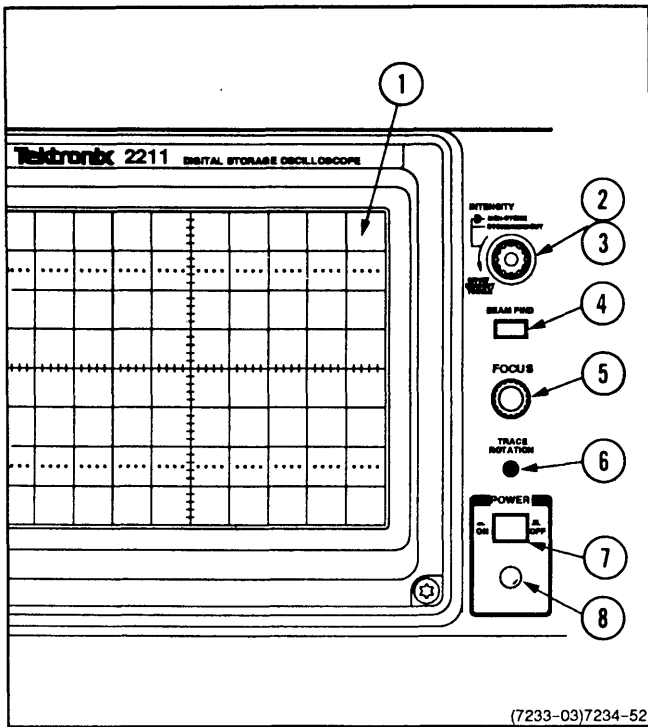

Figure 2-3. Power and Display controls and power-on indicator.
See Figure 2-3 for location of items 1 through 8.
- ① **INTERNAL GRATICULE** – Eliminates parallax viewing errors between the trace and the graticule lines. Rise time amplitude and measurement points are indicated at the left edge of the graticule.
- ② **INTENSITY Control** – Adjusts the brightness of the NON-STORE trace display.
- ③ **READOUT/STORE INTENSITY Control** – Adjusts the brightness of the STORE mode traces, CRT readout and cursor displays. This control is also used to either enable or disable the CRT readout and cursor display. The fully counterclockwise position of the control toggles the readout on and off.
- ④ **BEAM FIND Switch** – Compresses the vertical and horizontal deflection to within the graticule area. The traces are intensified to aid the user in locating traces that are overscanned or deflected outside of the crt viewing area.
- ⑤ **FOCUS Control** – Adjusts for optimum display definition. Once set, proper focusing is maintained over a wide range of display intensity.
- ⑥ **TRACE ROTATION Control** – Permits alignment of the trace with the horizontal graticule lines. This control is a screwdriver adjustment that, once set, should require little attention during normal operation.